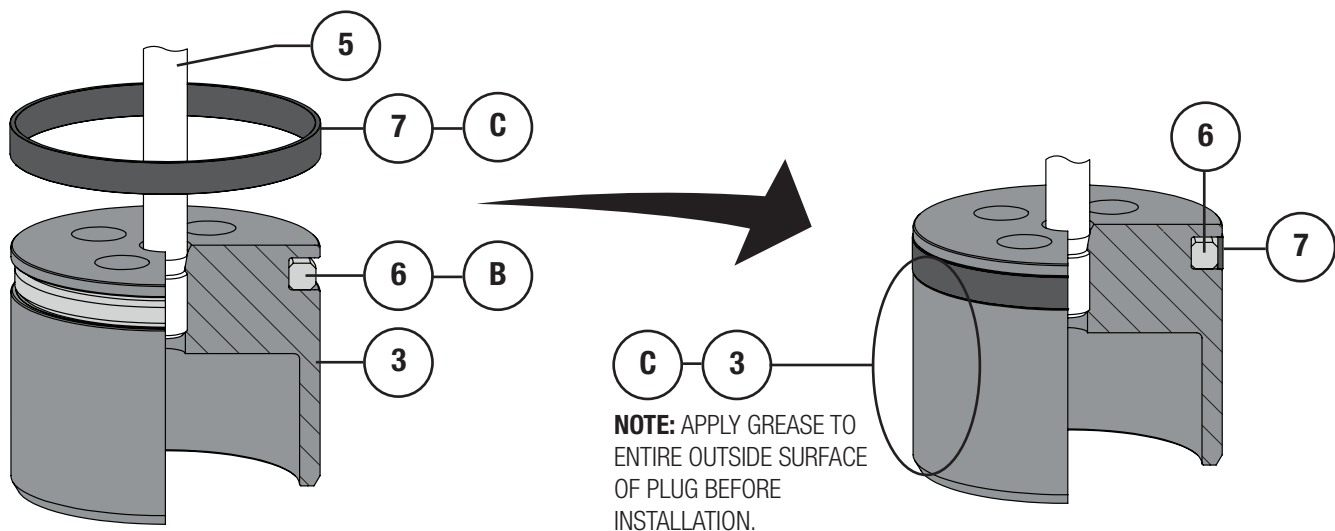
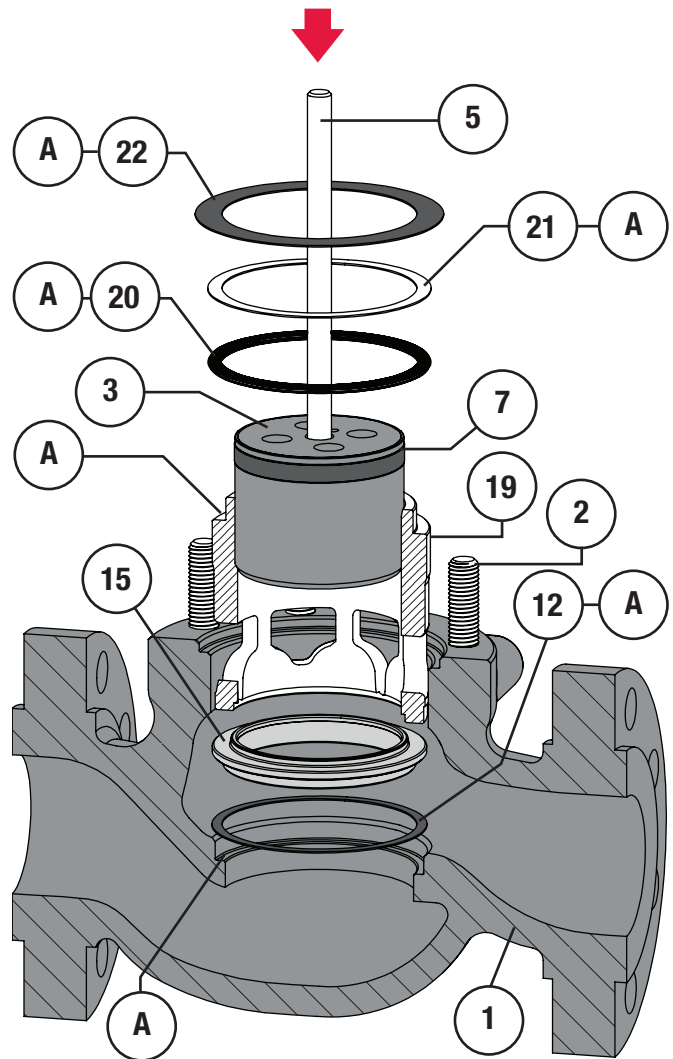

Figure 18 Model 360 Two-Piece Plug Seal Assembly
Figure 23 Standard Trim Parts Assembly
- 1 Apply Lubriplate® No. 105 (Key C) to the surface of the backup ring (Key 6) and carefully slide it over the top of the valve plug (Key 3) and into the groove as shown in Figure 18.
- 2 Apply Lubriplate® No. 105 (Key C) to the surface of the seal ring (Key 7) and carefully slide it over the top of the valve plug (Key 3) and into the groove as shown in Figure 18. **NOTE:** It is important to allow time for the seal ring to shrink back to its original size after it has been installed before installing the plug/stem assembly in to the valve.
- 1 Apply Permatex® Nickel Anti-Seize (Key A) to the seat ring pocket of the valve body (Key 1) and top surface of the seat ring gasket (Key 12). Install the seat ring gasket into the valve body (Key 1). Refer to Figure 23.
- 4 Apply Lubriplate® No. 105 (Key C) to the side of the valve plug (Key 3) (Refer to Figures 18, 19, 20 & 22). Install the valve plug assembly into the cage (Key 19), refer to Figure 23.
- 6 Apply Permatex® Nickel Anti-Seize (Key A) to the gasket surface of the cage (Key 19) or cage retainer (Key 49), and top surface of the spiral wound gasket (Key 20), metal shim (Key 21), and bonnet gasket (Key 22). Install the gaskets and shim as shown in Figure 23 or 36 for Low-Noise trim.